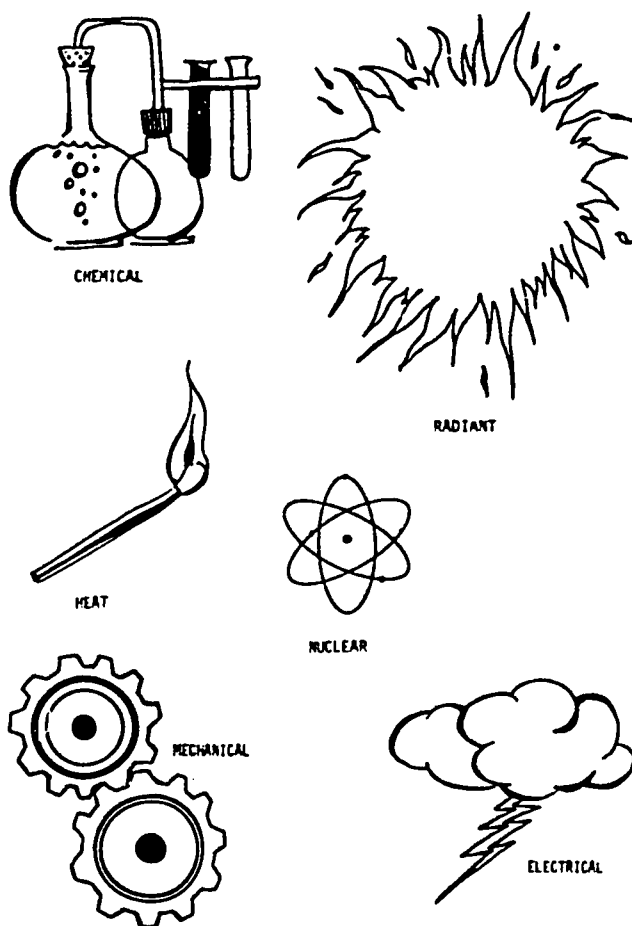

Fig. 40-1. There are six main kinds of energy.
There are six main kinds or classes of energy. They are (1) *mechanical*, (2) *radiant*, (3) *chemical*, (4) *heat*, (5) *electrical*, and (6) *nuclear*, Fig. 40-1. A rotating turbine, a moving piston, and a coiled spring are examples of *mechanical* energy. *Radiant* energy includes light, radio waves, and X rays. *Chemical* energy is stored in the atomic and molecular bonds of food and fuels. *Heat* energy is used for warmth and for changing water to steam. *Electrical* energy can be found in electric currents and magnets. *Nuclear* energy is the most powerful form man can use. It comes from the forces holding together the *nucleus* (center or core) of an atom.